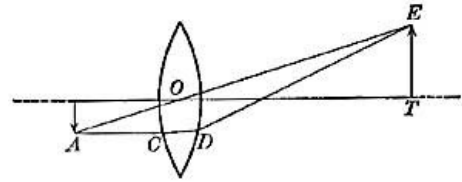

FIG. 73.—The image is larger than the object. By means of a lens, a watchmaker gets an enlarged image of the dust which clogs the wheels of his watch.
**114. How Lenses Form Images.** Suppose we place an arrow, *A*, in front of a convex lens (Fig. 73). The ray *AC*, parallel to the principal axis, will pass through the lens and emerge as *DE*. The ray is always bent toward the thick portion of the lens, both at its entrance into the lens and